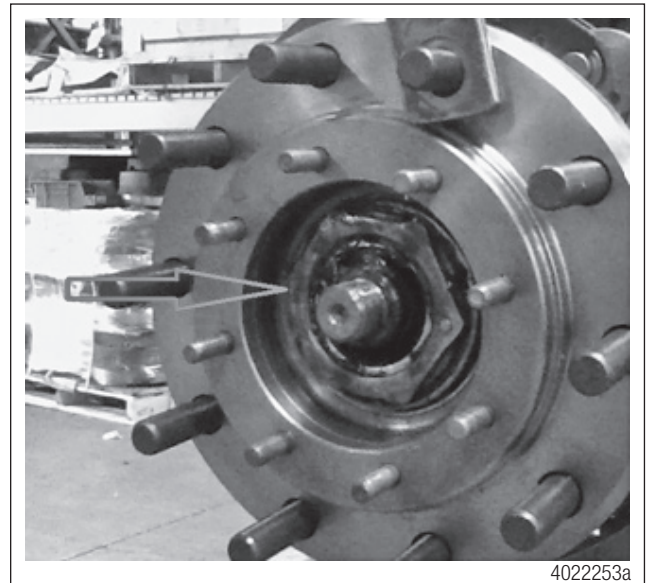

Figure 16
11. Remove the adjusting nut from the spindle. Figure 16.